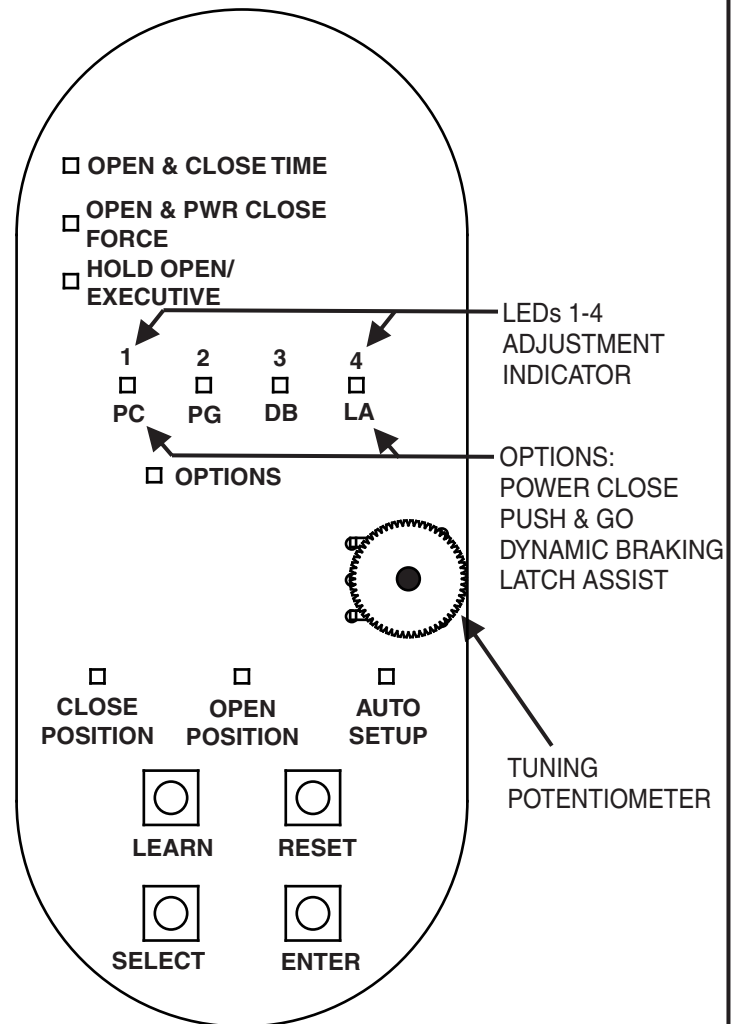

Figure 35
NOTE: The instructions programming the operator and linking the RF pushbuttons are common regardless of whether the door is a push or pull application. Refer to Figure 35 during programming for Setup Board Layout.
1. Enter programming mode, Refer to Figure 35 and, at the base of the setup board, PRESS and HOLD both “SELECT” and “ENTER” pushbuttons until LEDs 1 through 4 flash. The following shall occur: